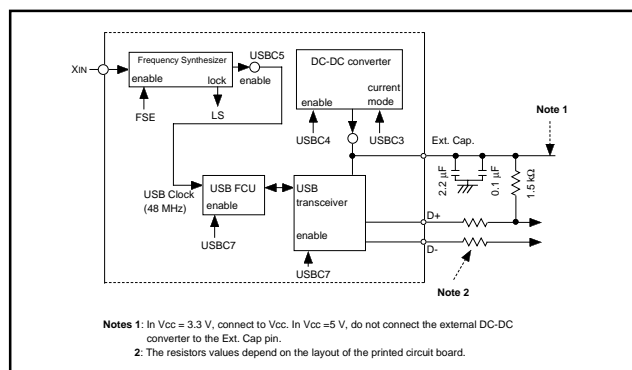

Fig.95 Peripheral circuit
•Connect a capacitor between the Ext. Cap. pin and the Vss pin. The capacitor should have a 2.2  $\mu$ F capacitor (Tantalum capacitor) and a 0.1  $\mu$ F capacitor (ceramic capacitor) connected in parallel. Figure 95 for the proper positions of the peripheral components.